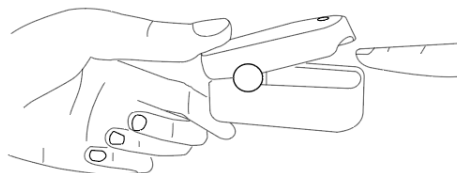

Figure 5
1. After properly installing two AAA batteries, press lid's press sign as shown in the **Figure 5** and open the clip. Let the testee's finger put into the rubber cushions of the clip, make sure the finger is in the right position as shown in **Figure 5**, and then loosen the clip.